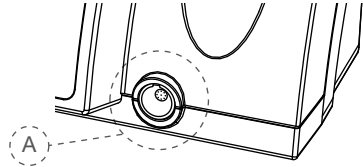

Fig. 2 Front Connection
5. Insert the plug of the micromotor cable into connection socket (Fig. 2, A) at the front of the central unit.
The connection socket (Fig. 2, A) is a push-pull connector. Align the red dot on the plug vertically and position it so that it can be inserted into the socket. Do not screw the plug into the socket. Pull on the metal end of the cable to unplug it. Do not twist the plug when removing.